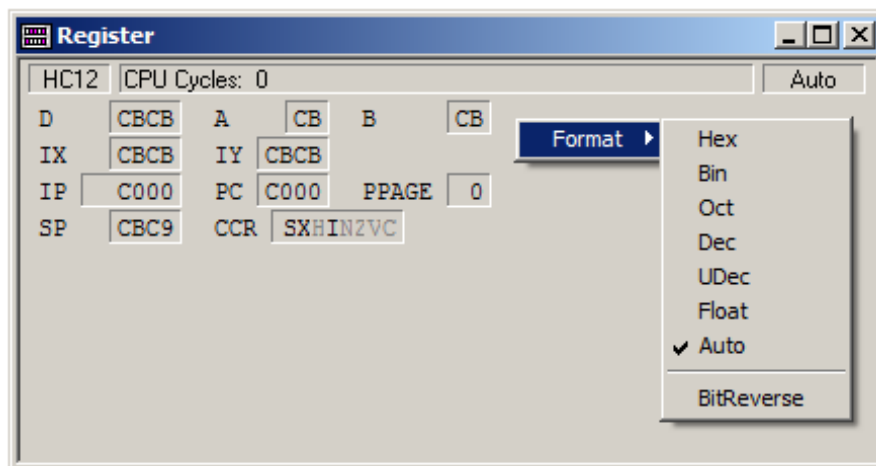

Figure 1.23 True-Time Simulator & Real-Time Debugger - Register window
- Registers window – displays the following MCU registers: D, A and B (accumulators), IX, IY (16 bit index registers), IP, PC (Instruction Pointer, Program Counter), PPAGE, SP (Stack Pointer), CCR (Condition Code Register). The value of the registers can be modified by double clicking in the value field. The registers display format can be modified from the contextual menu as shown in Figure 1.23.